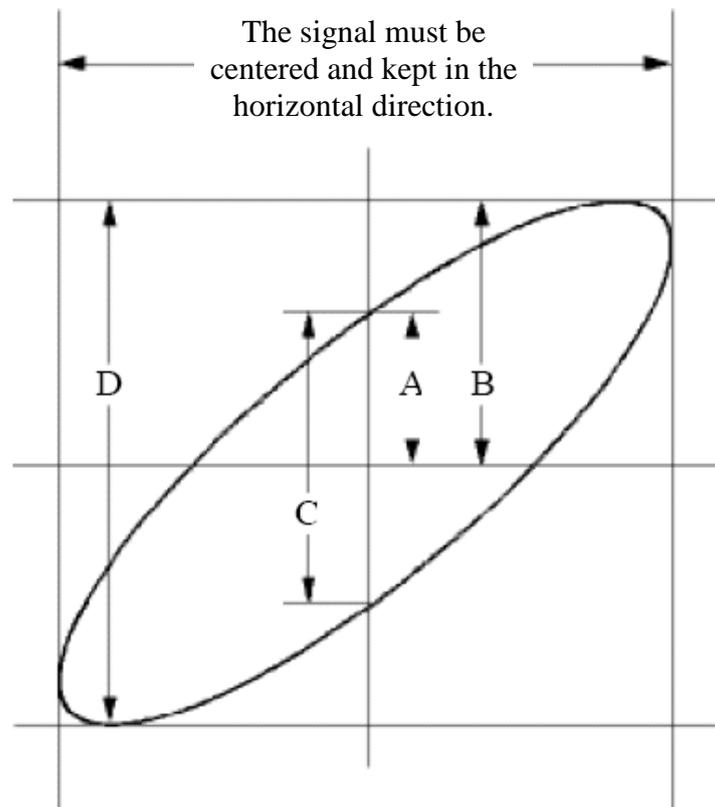

Figure 9-6 Lissajous Graph
- (1) Set the probe menu attenuation coefficient for **10X** and that of the switch in the probe for **10X** (see "*How to Set the Probe Attenuation Coefficient*" on P12).
- (2) Connect the probe of channel 1 to the input of the network and that of Channel 2 to the output of the network.
- (3) Push the CH1 to CH4 button to turn on CH1 and CH2, turn off CH3 and CH4.
- (4) Push the **Autoset** button, with the oscilloscope turning on the signals of the two channels and displaying them in the screen.
- (5) Push **CH1** button to select CH1, turn the **Vertical Scale** knob, and then push **CH2** button to select CH2, turn the **Vertical Scale** knob, making the amplitudes of two signals equal in the rough.
- (6) Push the **Display** button and recall the Display menu.
- (7) Select **XY Mode** in the bottom menu. Select **Enable** as **ON** in the right menu. The oscilloscope will display the input and terminal characteristics of the network in the Lissajous graph form.
- (8) Turn the **Vertical Scale** and **Vertical Position** knobs, optimizing the waveform.
- (9) With the elliptical oscillogram method adopted, observe and calculate the phase difference (see *Figure 9-6*).